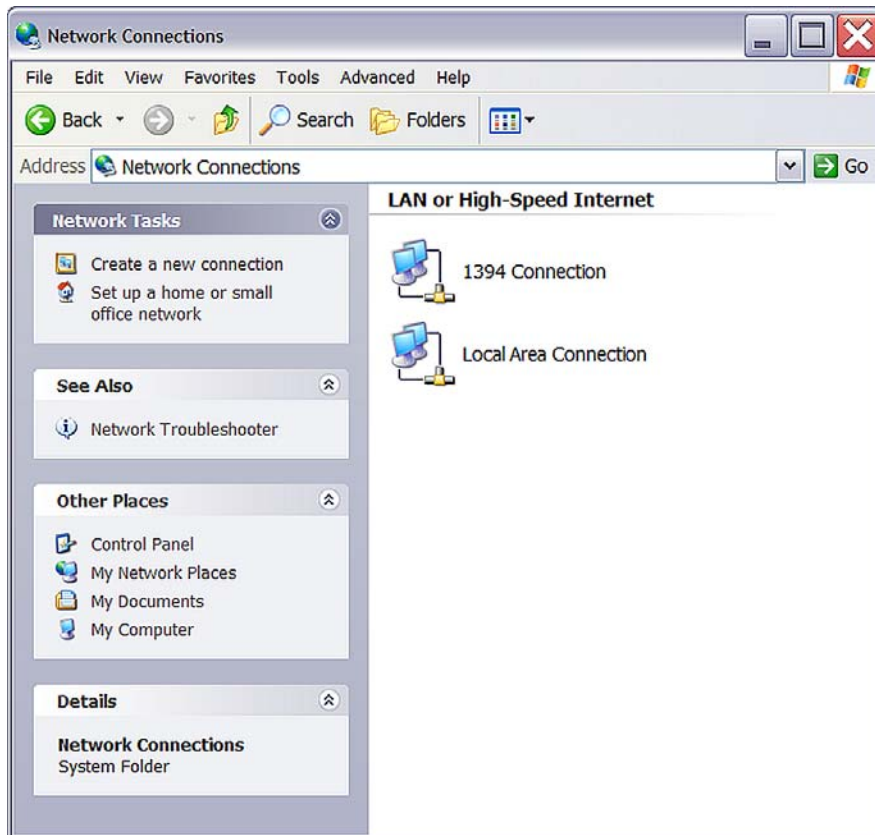

Figure 6. Network Connections Window
1. Open the **Windows Control Panel** and double-click **Network Connections** icon. The **Network Connections** window appears, see Figure 6.